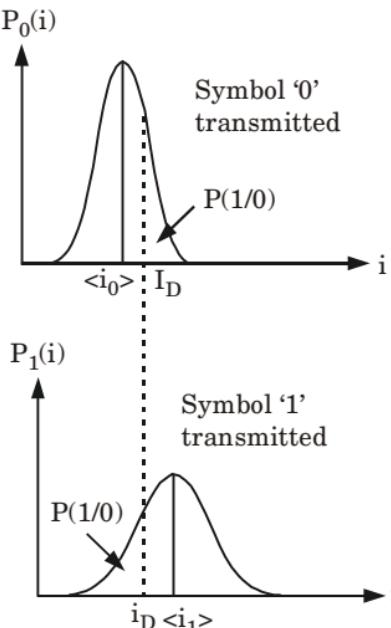

Fig. 5.3.1. Probability distributions of the photocurrent for the two transmitted symbols and selection of the decision thresholds.
6. Fig. 5.3.1 shows the probability distributions of the photocurrent for the two transmitted symbols.